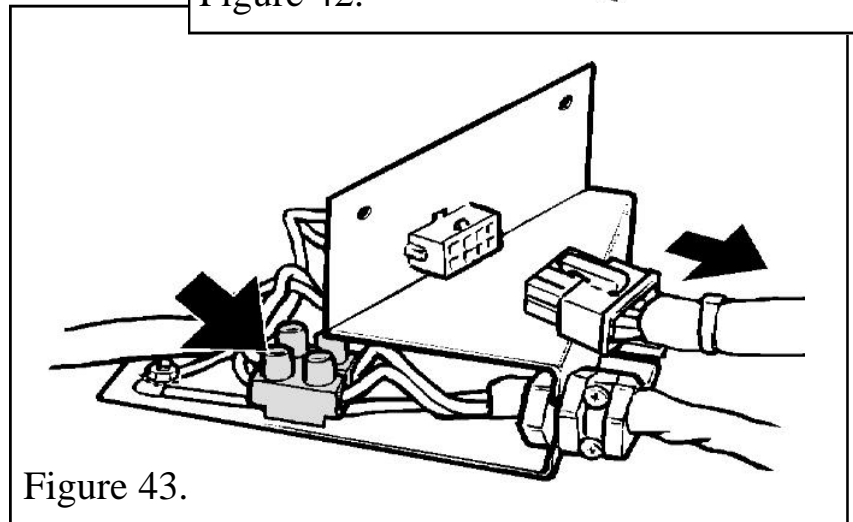

Figure 43.
- Detach the fan wiring loom connection. (See figure 43).
- Disconnect the two leads (Brown & blue) from the mains cable connection block (See figure 43)